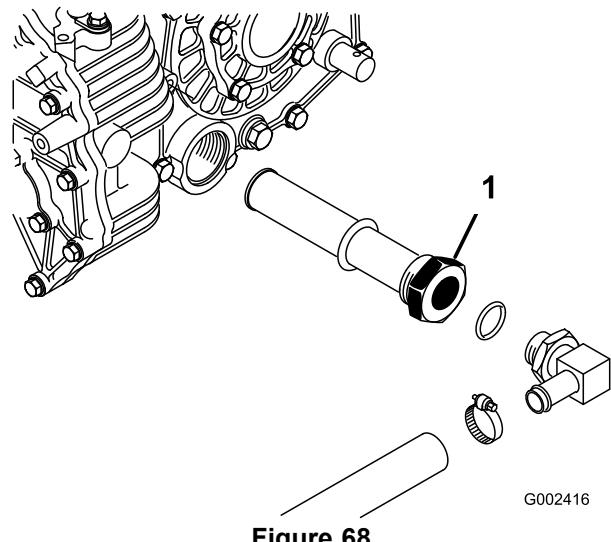

Figure 68
3. Note the orientation of the hydraulic hose and 90 degree fitting connected to the strainer on the side of the reservoir (Figure 68). Remove the hydraulic hose and 90 degree fitting.